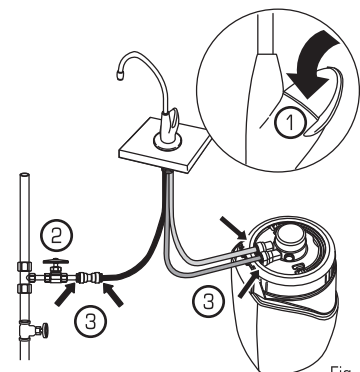

Fig. 23
7. **Open** the **eSpring** Faucet **1**. **Open** the water supply shut-off valve to start water flowing through the Carbon Water Treatment System **2** (Fig. 23).
8. **Turn off** the **eSpring** Faucet and check for any signs of leakage at all tubing connections **3** (Fig. 23). If there is leaking or bubbling, refer to Troubleshooting, p. 7.